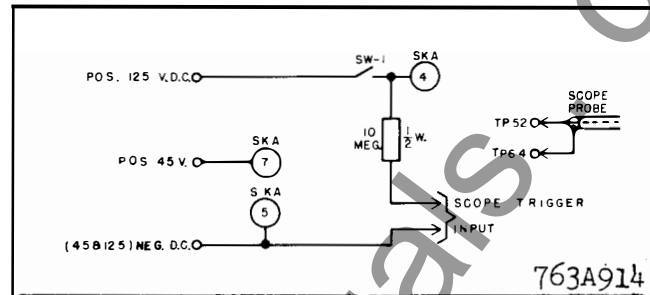

Fig. 9. Test Connections for the 3/20 MS Time Delay Unit of the Type SKA Relay.
1. Make the connections shown in Fig. 9.